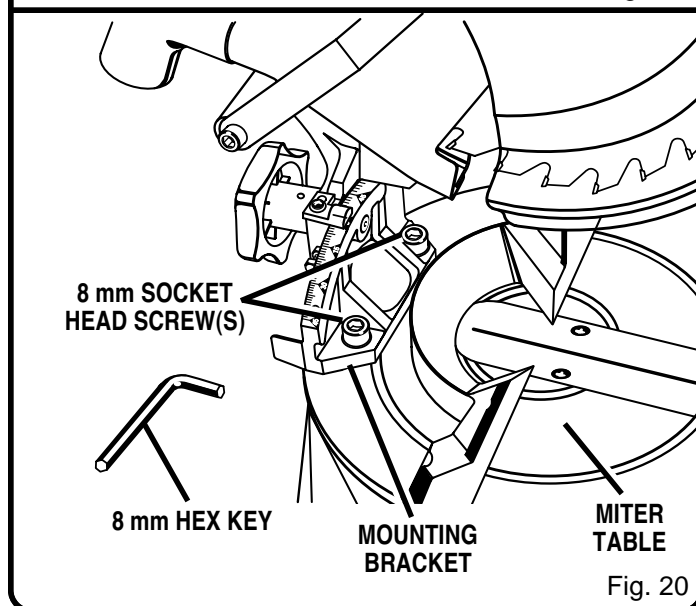

Fig. 20
- Using the 8 mm hex key (allen wrench) provided, loosen the socket head screws that secure the mounting bracket to the miter table. See Figure 20.